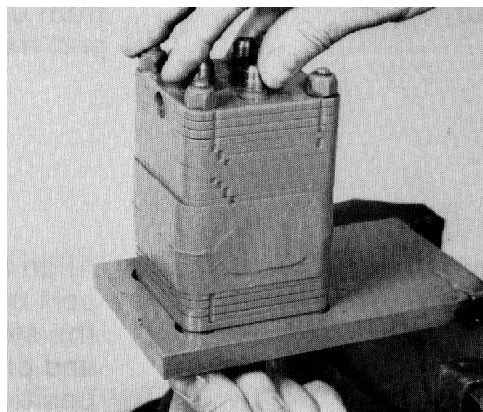

Figure 112
48. Remove the four nuts holding the unit to the fixture and remove the unit (Fig. 112).